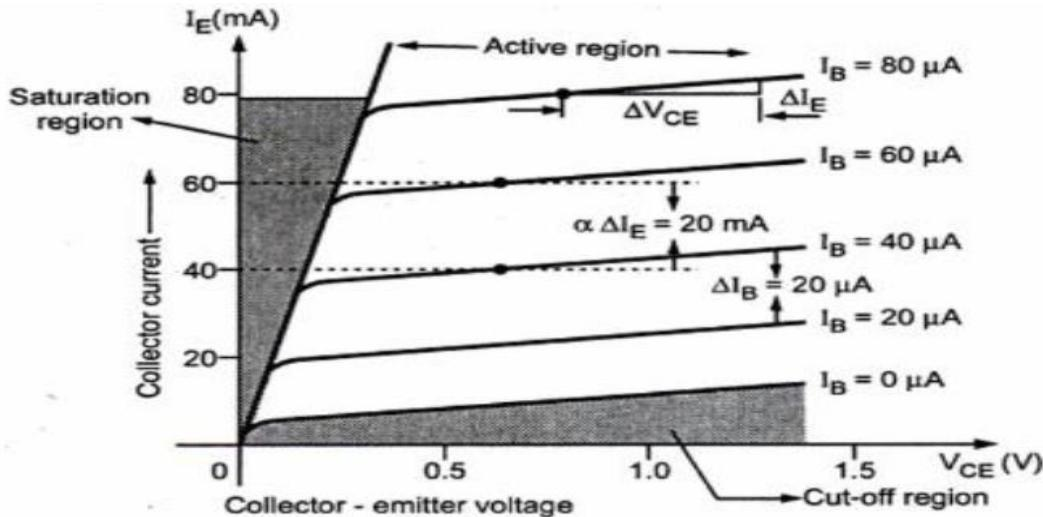

Fig. 3.17 Output characteristics of the transistor In CC configuration
- Fig. 3.17 shows the output characteristics of a typical transistor in common collector configuration.